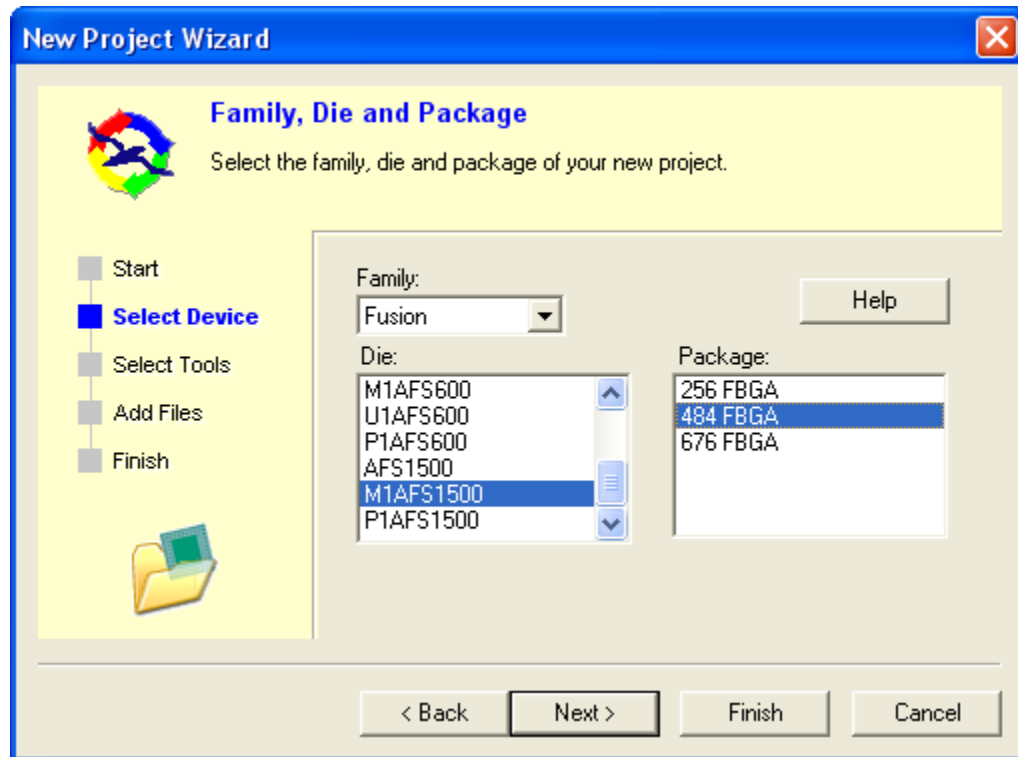

Figure 3-2 • Select Family, Die, and Package
5. Click **Next**. The Family, Die and Package options appear (Figure 3-2 on page 3-14).